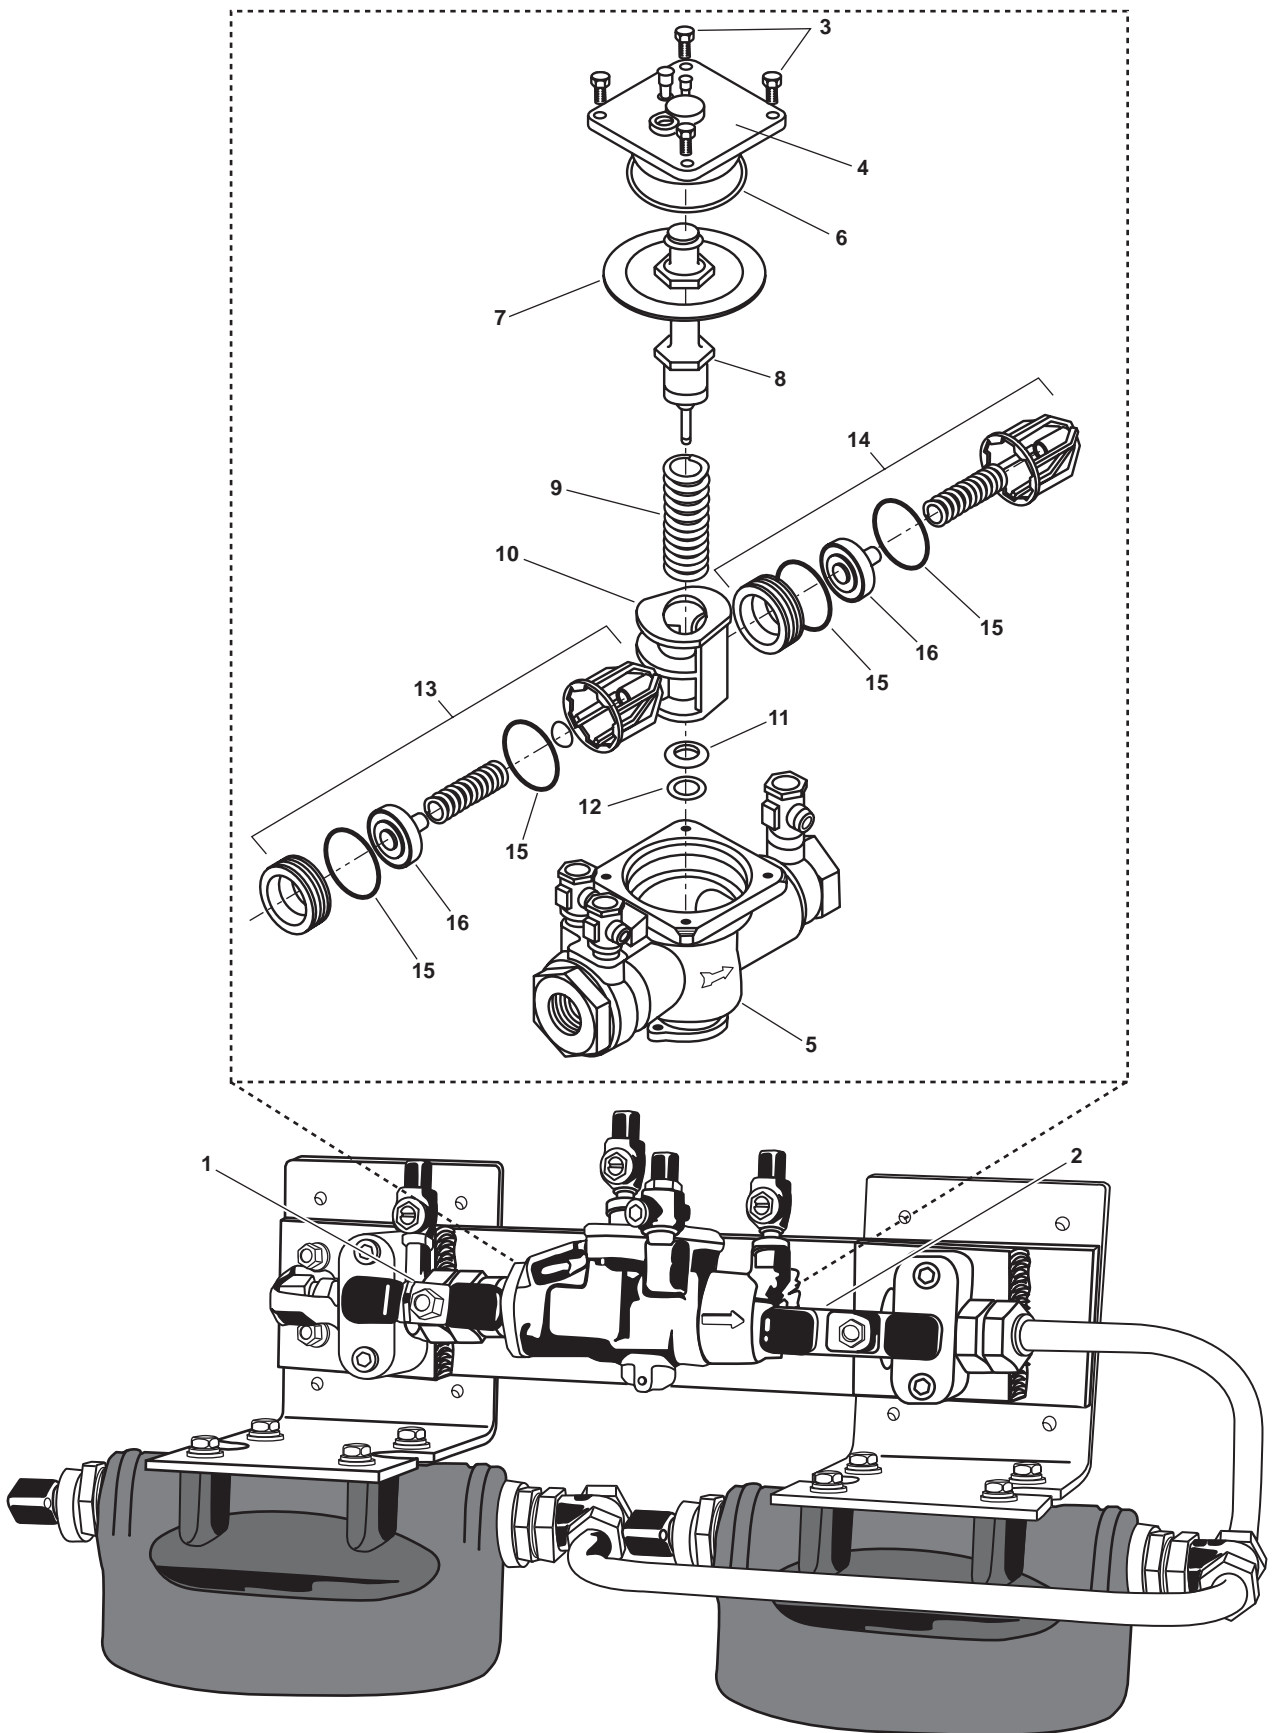

Figure 8. Backflow Preventer Valve
2. Close the backflow preventer supply valve RO-V-6 (figure 8, item 1). Lock out and tag out (FM 55-502).
3. Close the backflow preventer discharge valve RO-V-7 (figure 8, item 2). Lock out and tag out (FM 55-502).
4. Remove the four cover bolts (figure 8, item 3) and remove the valve cover (figure 8, item 4) from the valve body (figure 8, item 5).
5. Remove the cover O-ring (figure 8, item 6), diaphragm (figure 8, item 7), and stem (figure 8, item 8). Discard the cover O-ring and diaphragm.
6. Remove the valve spring (figure 8, item 9).
7. Remove the retainer (figure 8, item 10) from the valve body (figure 8, item 5).
8. Remove the seat (figure 8, item 11), and seat O-ring (figure 8, item 12) from the valve body (figure 8, item 5). Discard the seat and seat O-ring.
9. Remove the first check assembly (figure 8, item 13) and second check assembly (figure 8, item 14) from the valve body (figure 8, item 5).
10. Hold the check cage in one hand while turning the seat clockwise to separate the parts of the first check assembly (figure 8, item 13) and the second check assembly (figure 8, item 14).
11. Remove and discard the O-ring seals (figure 8, item 15) and disc assemblies (figure 8, item 16) from the first check assembly (figure 8, item 13) and second check assembly (figure 8, item 14).
12. Use clean wiping rags and water to clean and remove any debris and foreign matter from the interior of the valve body (figure 8, item 5), and clean all remaining parts with fresh water.
1. Assemble the first check assembly (figure 8, item 13) and second check assembly (figure 8, item 14) using new O-ring seals (figure 8, item 15) and disc assemblies (figure 8, item 16).
2. Install the first check assembly (figure 8, item 13) and second check assembly (figure 8, item 14) in the valve body (figure 8, item 5).
3. Install a new seat O-ring (figure 8, item 12) and a new seat (figure 8, item 11) in the valve body (figure 8, item 5).
4. Install the retainer (figure 8, item 10) in the valve body (figure 8, item 5).
5. Install the valve spring (figure 8, item 9) by centering it on the seat (figure 8, item 11) in the valve body (figure 8, item 5).
6. Assemble the a new diaphragm (figure 8, item 7) and new stem (figure 8, item 8) as an assembly.
7. Install the new stem (figure 8, item 8) and a new diaphragm (figure 8, item 7) in the valve body (figure 8, item 5).
8. Install a new cover O-ring (figure 8, item 6) on the valve cover (figure 8, item 4).
9. Install the valve cover (figure 8, item 4) with the new cover O-ring (figure 8, item 6) on the valve body (figure 8, item 5). Verify that the valve cover presses flat against the valve body.
10. Install the four cover bolts (figure 8, item 3) to secure the valve cover in place (figure 8, item 4).